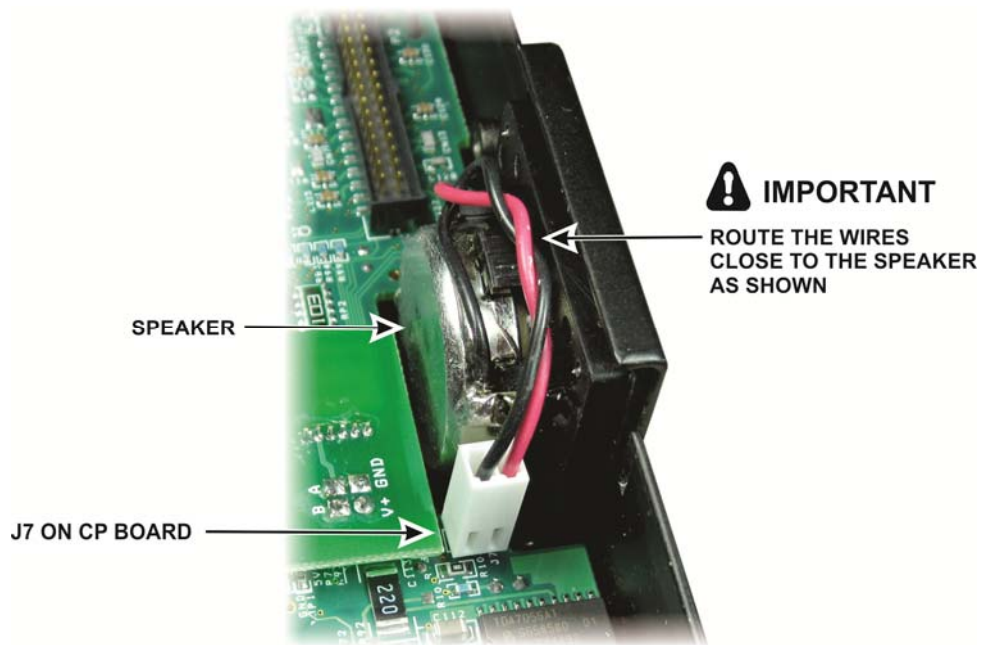

Figure 17. Connecting the Speaker to the CP Board.
- Plug the speaker connector into J7 next to the VFO encoder board (see Figure 17).